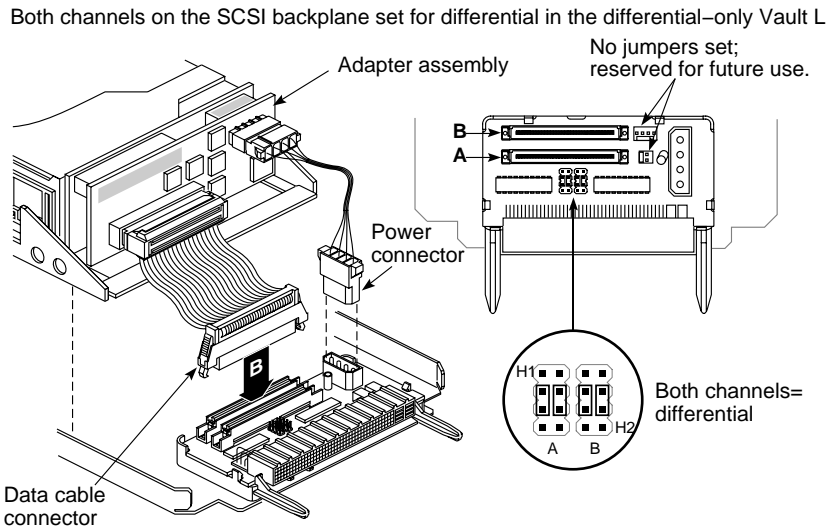
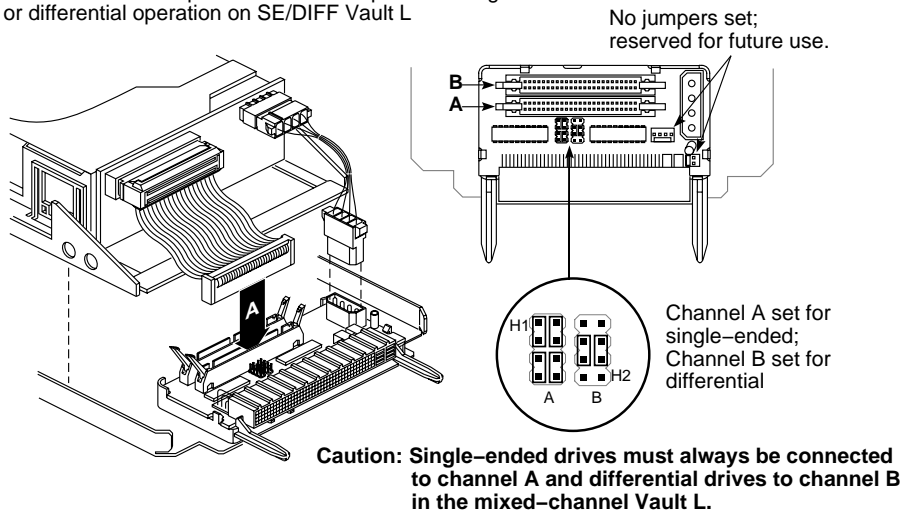

Figure 2-1 SCSI Drive Sled Jumper Setup for Differential Vault L
Figure 2-2 SCSI Drive Sled Jumper Setup for Mixed-Channel Vault L
2. Determine which channel (A or B) you want the drive to occupy, then plug the SCSI cable from the drive into the proper channel connector. See Figure 2-1 and Figure 2-2.
Caution: Channel A on the mixed-channel Vault A is reserved for single-ended SCSI drives only. The drive sled board jumpers should be set for either differential or single-ended operation as shown in Figure 2-1 and Figure 2-2.